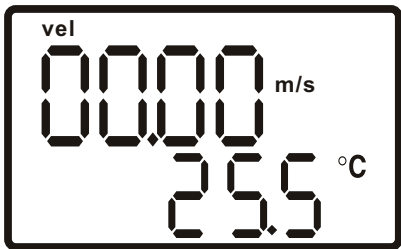

Fig. 9. The display indicating successful conversion to metric and Celsius units.
- Press the **HOLD** button again to generate the display shown in Fig. 9.